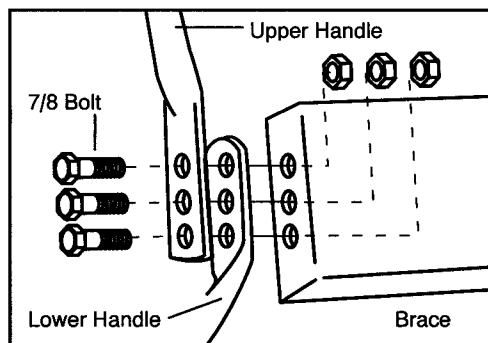

Fig. 1
STEP 2: Attaching the handle: remove the bolts retaining the panel to the lower handle. You need six bolts to mount the handle. Two of the six bolts were those you just removed. The other four are supplied with loose hardware in the plastic bag (see Fig. 1). Take the bottom section of the handle and install a bolt through the brace, the handle section, and the panel or bracket. Put a nut on each bolt and secure the panel or bracket on both sides of the handle.